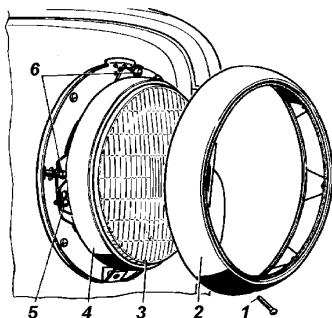
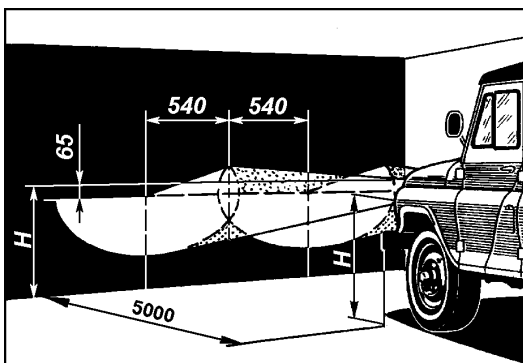

Fig. 74. Headlamp:
Fig. 75. Aiming
For replacing the bulb in the headlamp, turn out screw 1 (Fig. 74) securing garnish molding 2 and remove it. Loosen three screws 5 and take out inner molding 4 together with the sealed beam unit 3.
3. Turn on the lower beam and cover one headlamp. Adjust the beam by turning the screws 6 (Fig. 74) until the area of the concentrated light corresponds with the marks on the aiming screen or the wall as indicated in Fig. 75. The adjusting screws of the headlamp 62.3711-09 are located symmetrical about the headlamp center in the horizontal plane.